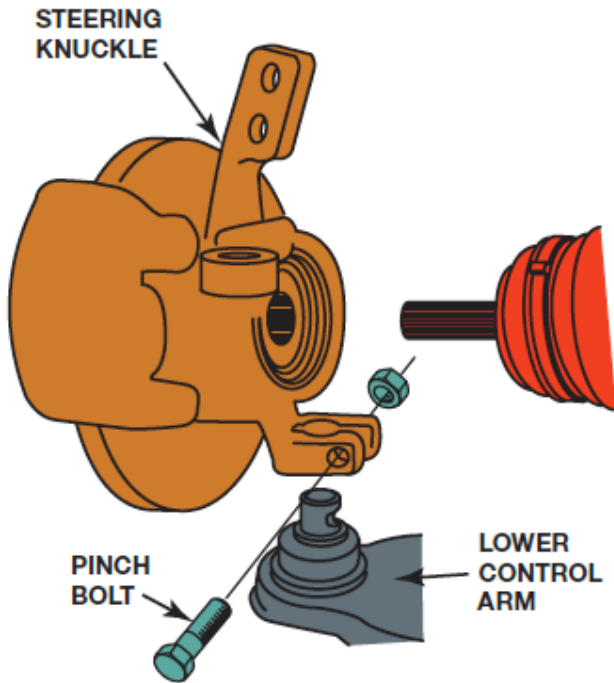

Figure 11. Suspension components need to be removed to remove the drive axle.
- To allow the knuckle room to move outward enough to remove the drive axle shaft, some or all of the following will have to be disconnected, Figure 11.